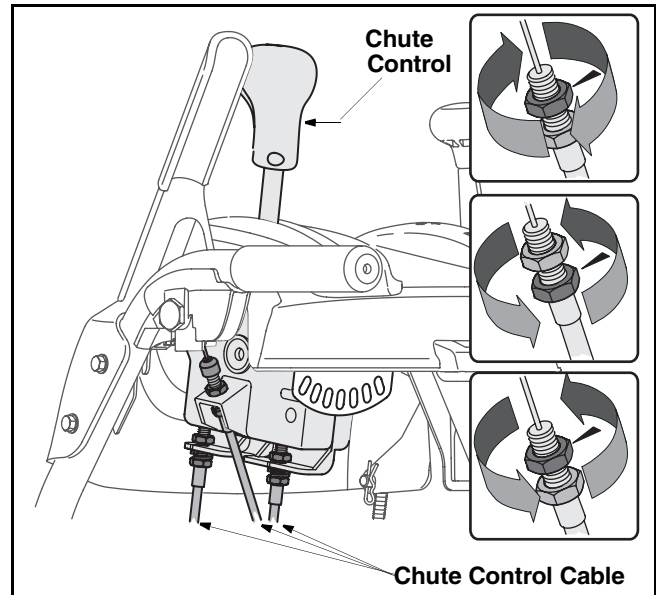

Figure 24
2. Adjust equally on both sides by working on all cables. See Figure 24.